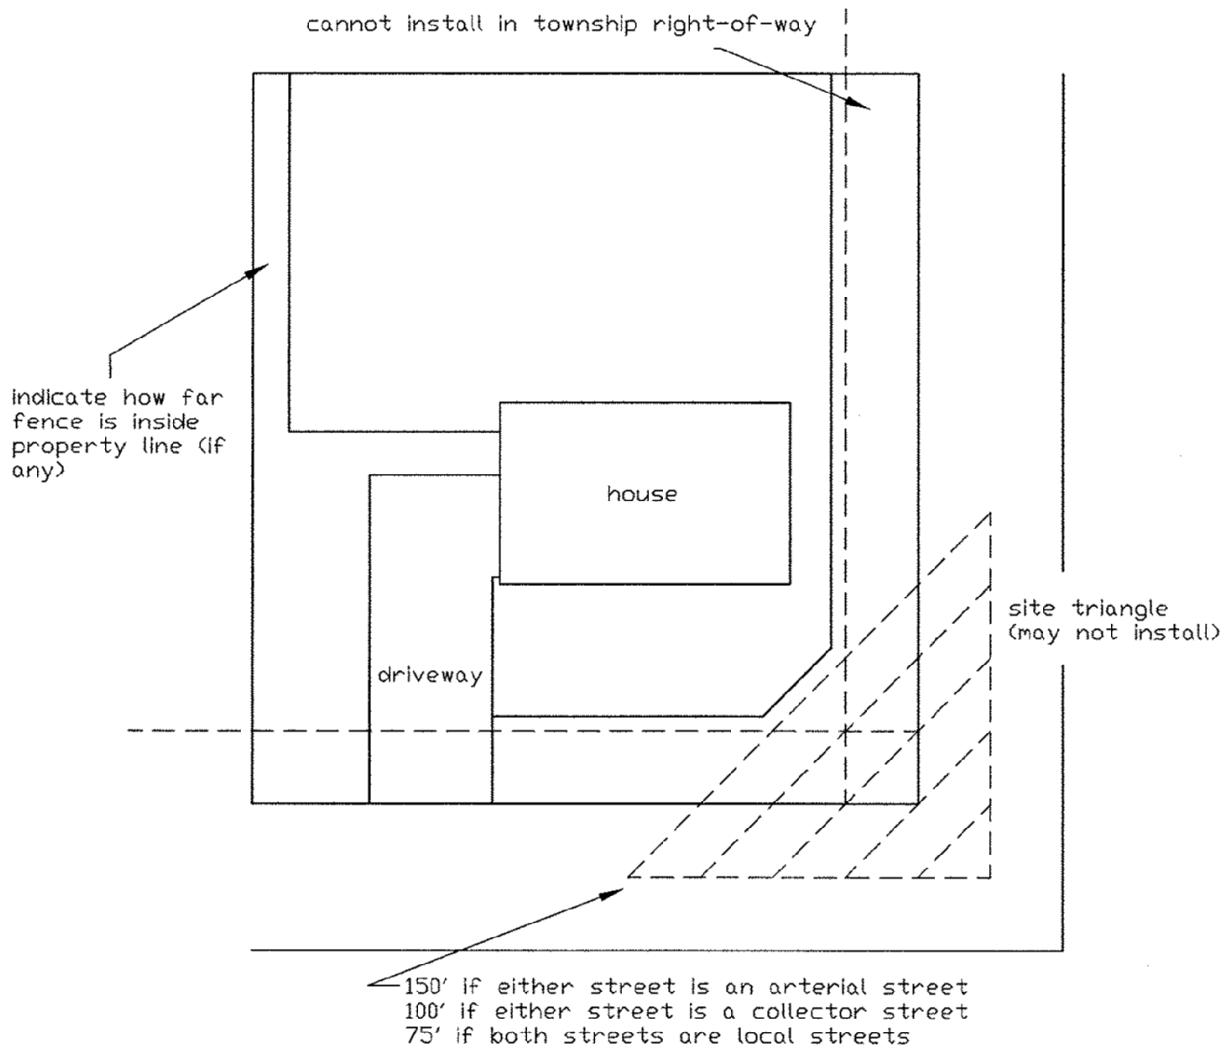

Figure 2
- (1) Sight distance at intersections.
- [1] One hundred fifty feet from the intersection of such street center lines, if either street is an arterial street (see Figure 2).
- [2] One hundred feet from the intersection of such street center line if either street is a collector street (see Figure 2).
- [3] Seventy-five feet from the intersection of such street center line if both streets are local streets (see Figure 2).
- (2) Sight distance at intersections of driveways or accessways with streets.
- (a) A triangular area as described in Subsection C(1) above shall be graded and shall be kept free of sight obstructions between the ground level and a height of 10 feet above the center-line grade of the intersecting driveway, accessway or street, including structures, nontransparent fences, vegetation and signs (but not including mowed grass, posts of official signs which must be located in the sight triangle because of their function or the trunks of existing trees whose branches are kept clear of the sight triangle). [Amended 12-17-2001 by Ord. No. 2001-311]